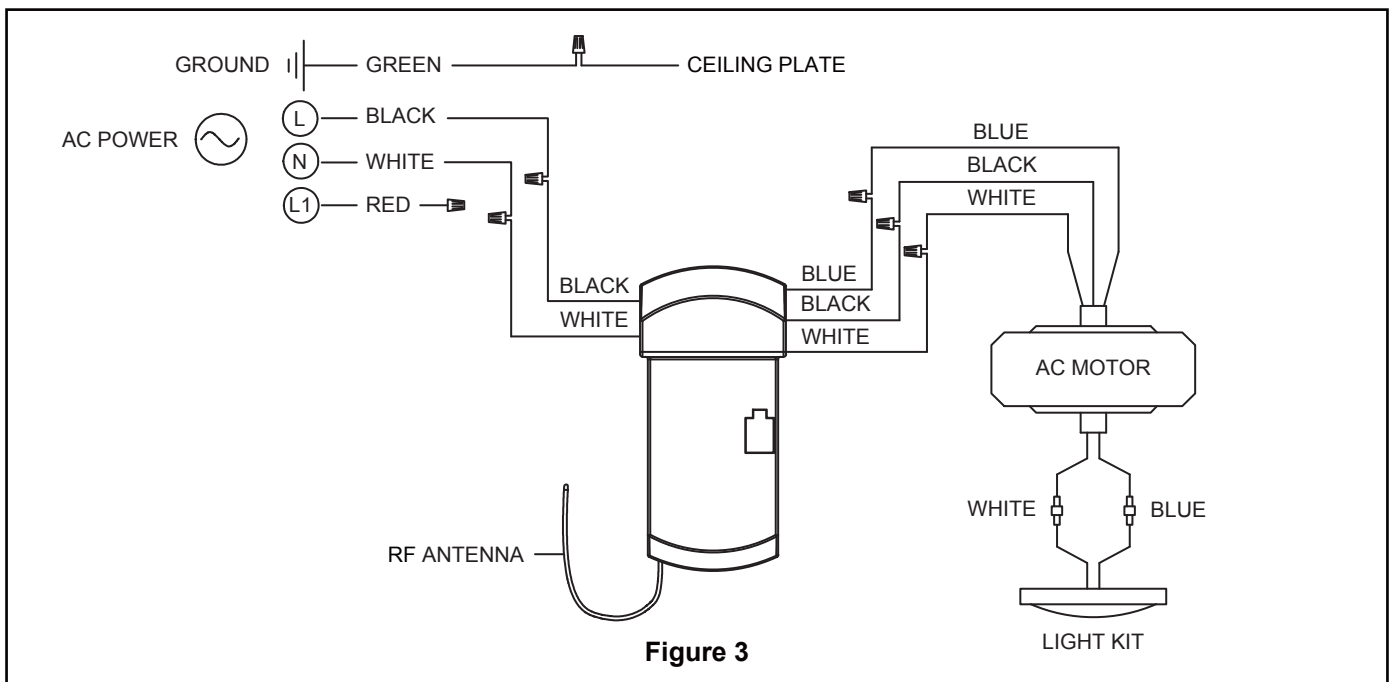

Figure 3
2. Connect green wires from ceiling plate assembly and ground from supply using wire connector. Connect black wire from receiver unit marked "AC IN L" to black supply wire using wire connector. Connect white wire from receiver unit marked "AC IN N" to white supply wire using wire connector. Connect white wire from receiver unit marked "TO MOTOR N" to white wire from fan using wire connector supplied with receiver unit. Connect black wire from receiver unit marked "TO MOTOR L" to black wire from fan using wire connector supplied with receiver unit. Lastly, connect blue wire from receiver unit to the blue fan light wire using wire connector supplied with receiver unit. (Figure 3)
3. After splicing and making the wire connections, the wires should be spread apart and turned upward with the grounded conductor (white), the equipment-grounding conductor (green) on one side of the ceiling plate assembly and the ungrounded conductor (black and blue) on the other side of the ceiling plate assembly. (Figure 3)